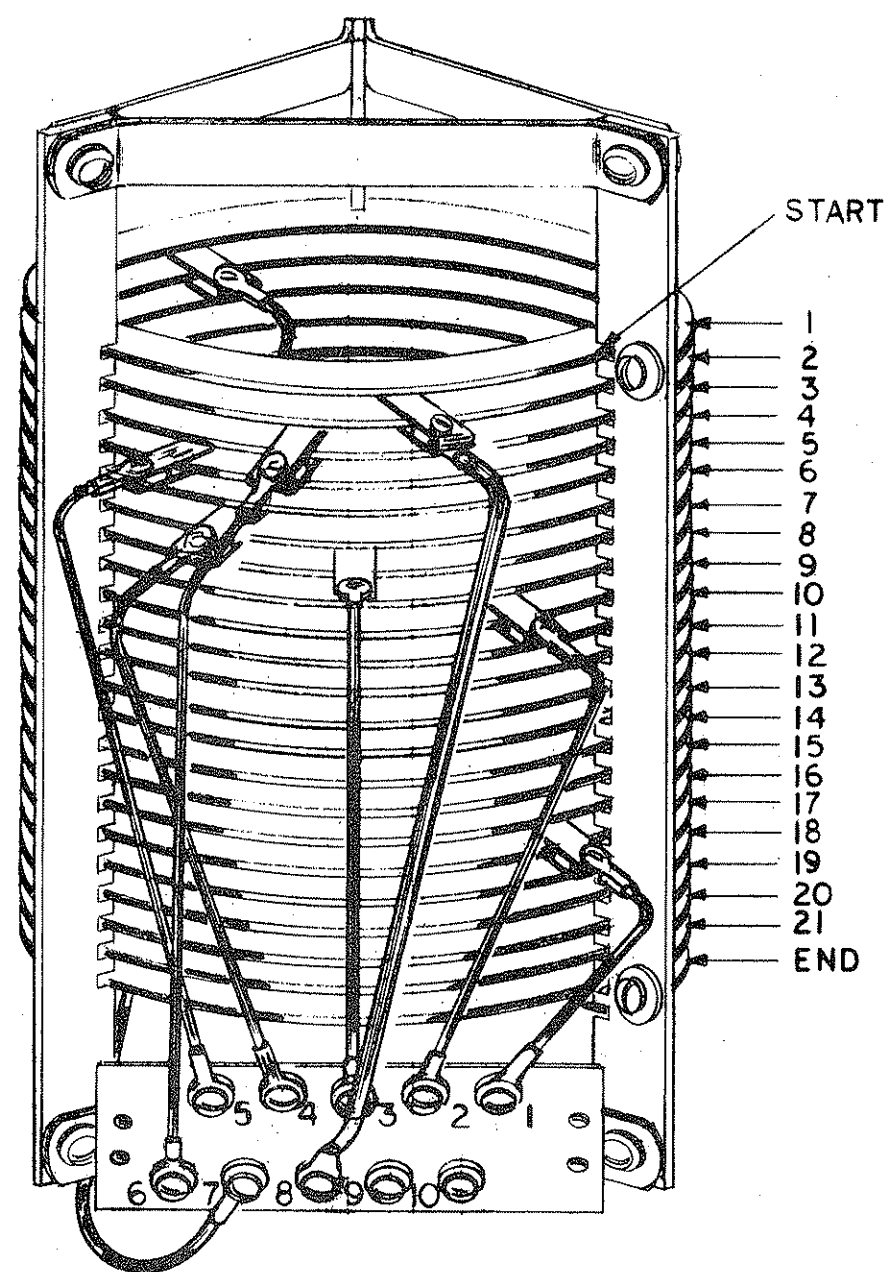

FIGURE 5-7
1. Inductor tap settings indicate active turns. (See Figure 5-7)